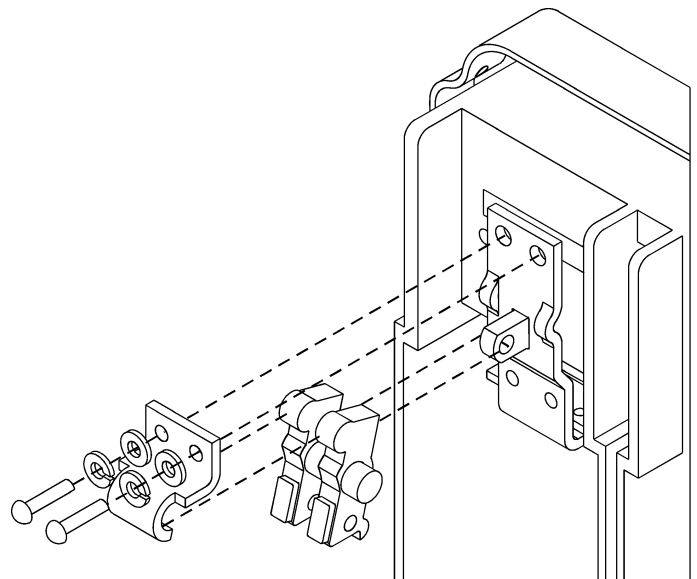

Figure 22. Replacement of stationary arcing contacts.
3. For replacement of stationary arcing contacts, as illustrated in Figure 22: